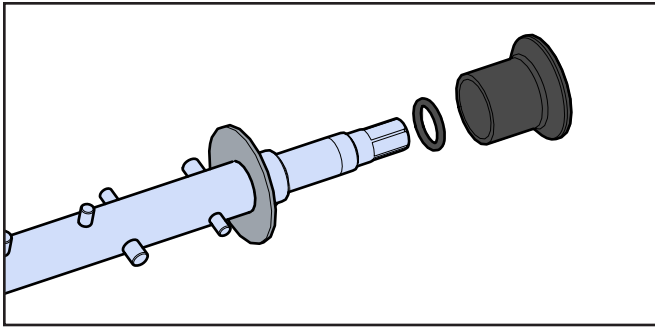

Figure 2-10 Rear Seal
4. Wipe lubricant off of the hex end of the augers with a paper towel. Remove the rear seal assemblies (Fig. 2-10).